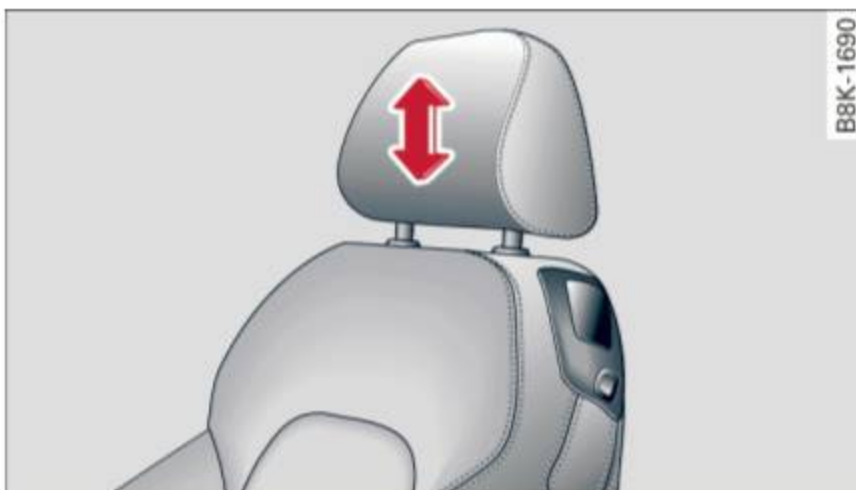

Fig. 55 Front seat: adjusting the manual head restraints
- ▶ To adjust the height of the manual head restraint*, grip the head restraint on the sides with both hands and slide it up/down until it locks into place ⇒ *fig. 55*.